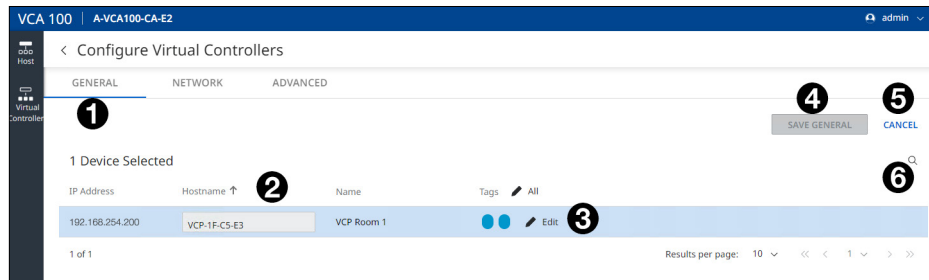

Figure 27. Configure Virtual Controllers — General Tab
The Configure Virtual Controllers page opens with the **GENERAL** tab (see figure 27, 1) selected.
3. Click **All** at the top of the Tags column (see figure 27, 3, on page 25).
1. Click **Edit** next to an individual VCP (see figure 27, 3).
1. Click **Edit** next to an individual VCP (figure 27, 3, on page 25).